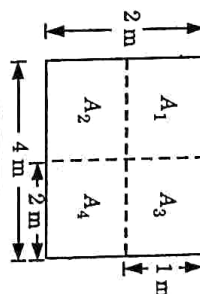

Fig. 4.4.1.
- i. The rectangular area divided into small rectangle is shown in Fig. 4.4.1.